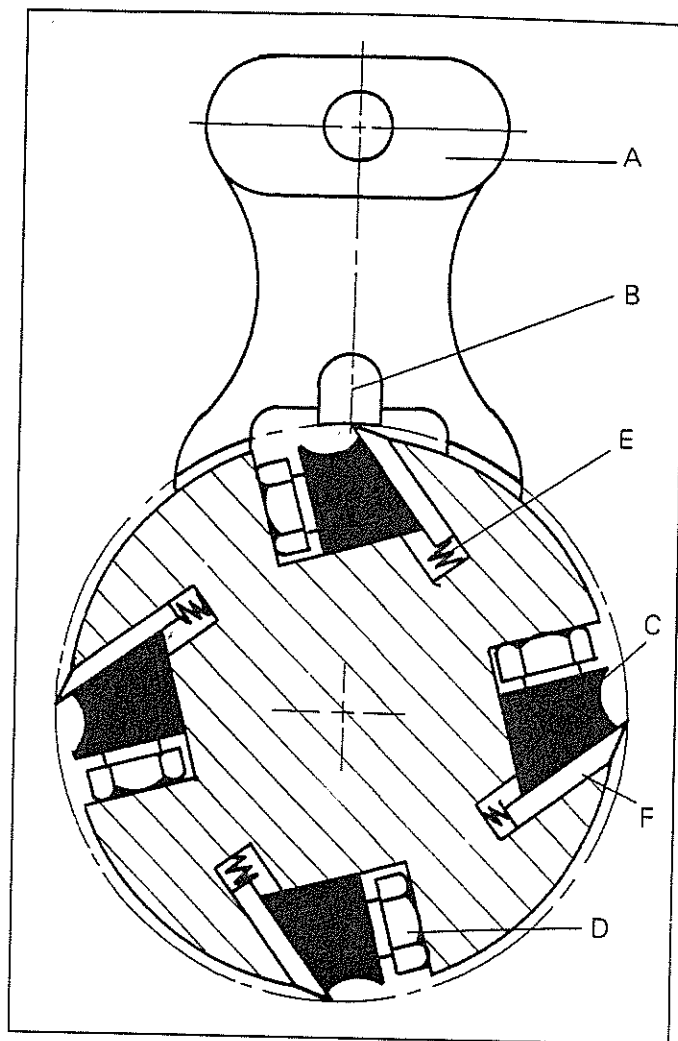

Fig. 22
3. To check and adjust knives use the knife gage (A) Fig. 22 and check all four knives. Knives should just contact the bottom of the center protrusion (B) of the knife gage, as shown in Fig. 22.
4. If an adjustment to one or more of the knives is necessary, slightly loosen the knife locking bars (C) Fig. 22, of all four knives by turning the 24 locking screws (D) Fig. 22 into the knife locking bars just enough to relieve stress in the cutterhead and not disturb the setting of the knives.
5. Using the knife gage adjust the knife, that must be reset by loosening all six locking screws (D) Fig. 22, by turning them into the knife locking bar. As the knife locking bar becomes loose, lifter springs (E) located under the knife will raise the knife until it comes into contact with the center protrusion (B) of the gage (A) Fig. 22. Then snug up the knife locking bar by tightly backing out the six locking screws (D) against the slot.
3. To remove knife, loosen the knife locking bar (C) Fig. 22, by turning the six knife locking screws (D) into the knife locking bar (C) and remove the knife locking bar (C), knife (F) and springs (E) located under the knives. Please take note, the inner two springs will pop out when removing the knife and knife locking bar.
6. Inspect the cutting edge of the knives for nicks or wire edge. Hone the knives slightly using a stone or if the knives are to be sharpened, maintain a cutting angle of 35 degrees as shown in Fig. 22
7. Insert springs (E), knives (F), and knife locking bar (C) into slot of the cutterhead, as shown in Fig. 22 Back out locking screws (D) just enough to hold the knife in the cutterhead.
8. Place the knife gage (A) over the knife as shown in Fig. 22
9. While holding down on the knife gage (A) Fig. 22, loosen all six locking screws (D) by turning them into the locking bar (C) until cutting edge of knife (F) comes into contact with the protrusion (B) of gage (A). Then snug up the knife locking bar (C) by slightly backing out the six screws (D) against the slot.
11. After all four knives are set with the screws just snug, back out and tighten the six screws (D) Fig. 22, against the slot starting with the end screws first and then the center screws until the knife is securely held in the cutterhead. Tighten the remaining three knives in the same manner.